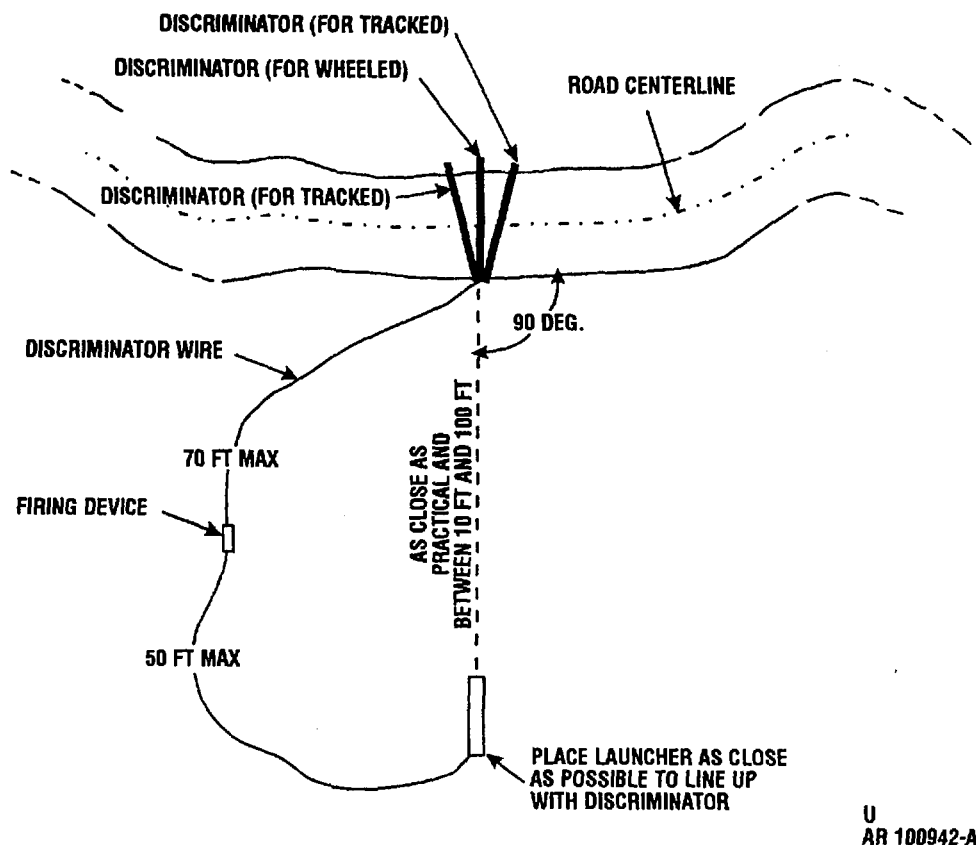

Figure 2-64. Preferred launcher placement.
- (4) If indicator light does not glow, do not use system.
- (5) If system is operable, temporarily disconnect discriminator wire from firing device.
- (6) Carefully remove launcher from dispenser pouch and place in selected position. (Launcher will operate most effectively at about 90° angle from target road or path at between 3-30 meters (10 to 100 feet)) (fig. 2-64).
- (9) Move to site selected for launcher. Assure that intended launcher position affords clear line of fire to target impact area (fig. 2-64).